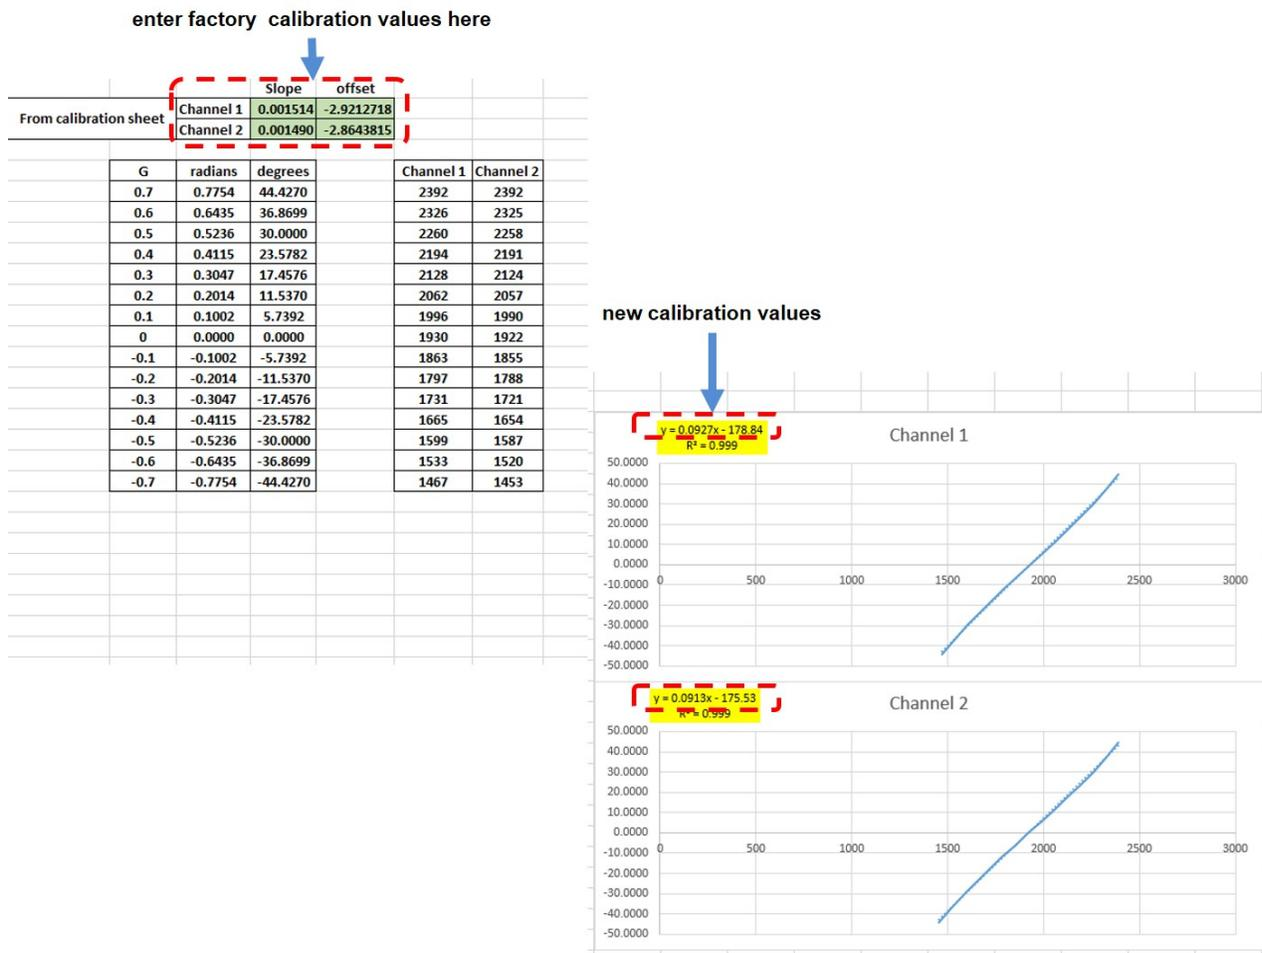

Figure 2 - New Calibration Values
3. **Calculate the new slope and offset value:** In the calculator, enter the current factory calibration values in the corresponding fields (*Figure 2 - New Calibration Values*). Up to two channels can be calculated at once. The new calibration values are displayed on the graph as the formula $y = mx + b$, where m equals the new slope value and b equals the new offset value.